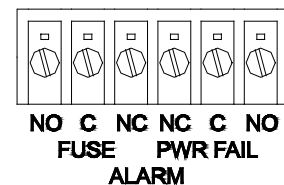

Figure 6 - Alarm Terminals
18. With **PWR A** lit (normal operation) — but with **PWR B** LED off (failure operation) — test the power-fail relay and contacts at **PWR FAIL ALARM** terminals on the rear of the panel. (See Figure 6.)